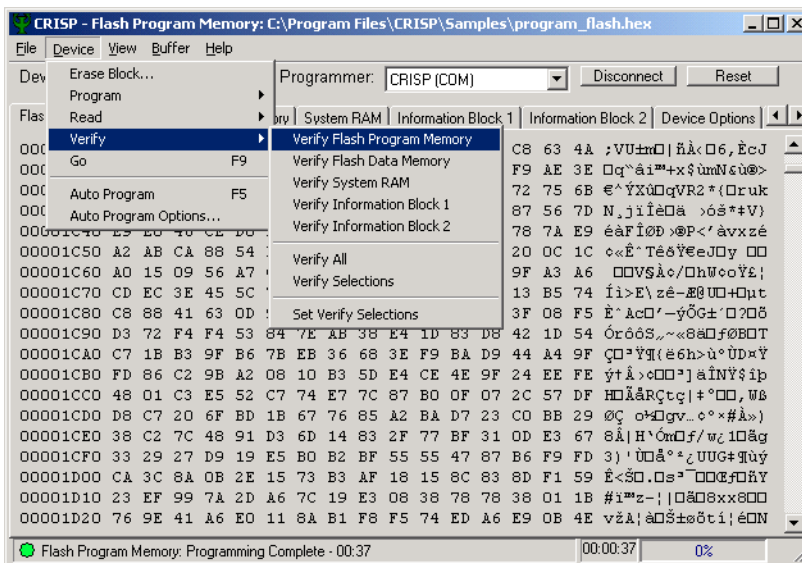

Figure 5-12. Selecting the Verify Flash Program Memory Command
1. **Initiate the Verification Operation.** Select the Device -> Verify -> Verify Flash Program Memory command. This is shown in Figure 5-12.